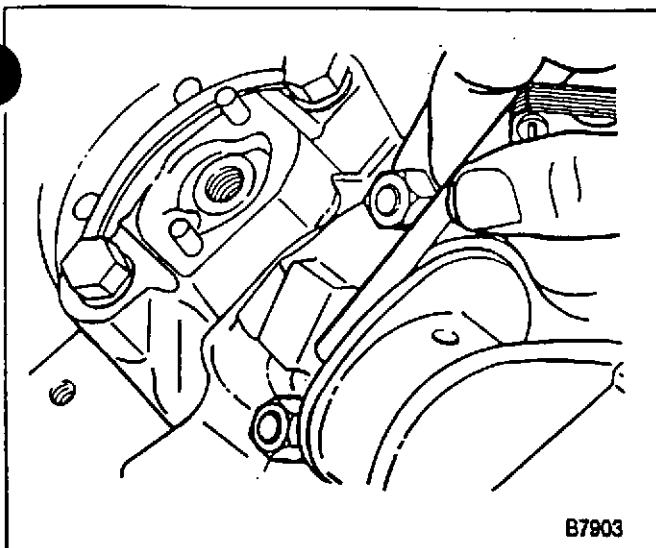

Figure 43—Measuring Connecting Rod Side Clearance
- Connecting rod side clearance (figure 43). The proper clearance is 0.015 to 0.046 inch.